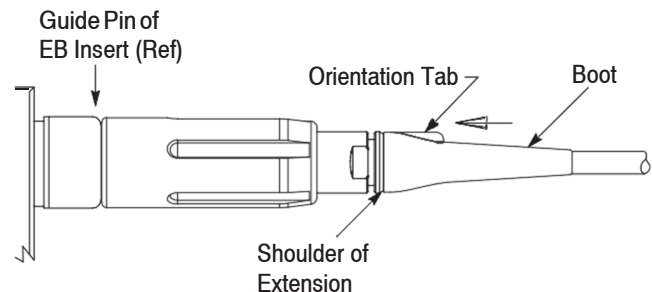

Figure 15
20. Slide the washer against the collet sleeve. See Figure 15, Detail A. Slide the cable seal over the cable until it is approximately 10 mm from the washer. See Figure 15, Detail B.
21. Apply the grease to the front and back and to the outside diameter of the cable seal. Also, apply grease around the cable jacket between the cable seal and the washer. See Figure 15, Detail C.
22. Apply a *thin film* of the grease to the inside edge of the extension (this is necessary to prevent damage to the O-ring of the housing). See Figure 15, Detail C.
23. Slide the extension over the collet nut and into the grip ring. Thread, then hand-tighten the extension into the grip ring. Using the 17-mm open-end wrench, tighten the extension to a torque between 6 and 10 N-m. See Figure 15, Detail D.
24. Apply the instant adhesive completely around the cone and in the groove of the extension. See Figure 15, Detail E.
25. Slide the boot over the cone of the extension until it is tight against the shoulder of the extension. Immediately rotate the boot so that the orientation tab is aligned with a desired reference point (using the guide pin of the EB insert is recommended; facing the bench-mount assembly fixture, the guide pin is positioned at 12 o'clock). See Figure 15, Detail F.